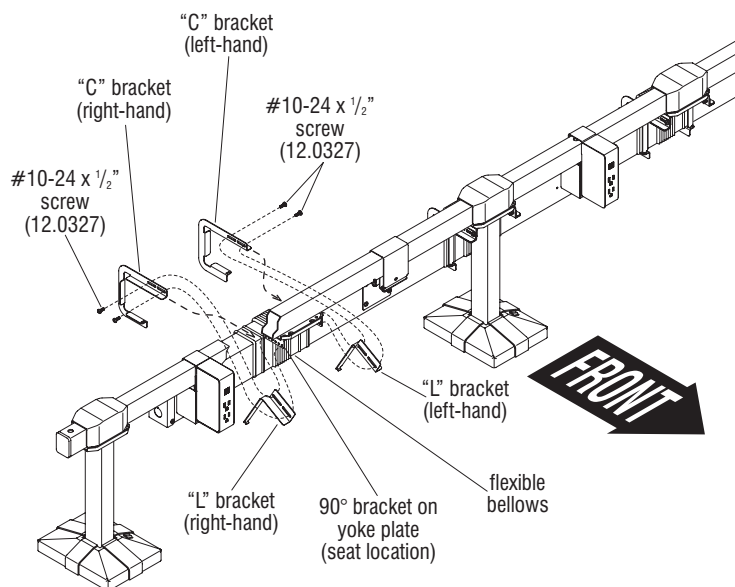

Figure 11
27. Orient the left- and right-hand "C" brackets as illustrated, and slide them onto the flat, end section of the flexible bellows. Then, from the other side of the wireway, position the right- and left-hand "L" brackets as shown. Insert the small tabs at the bottom of the "L" brackets into the lower slots on the right- and left-hand "C" brackets, then rotate the top of the "L" brackets up until the top flange of the "L" brackets make contact with the top of the "C" bracket as well aligning all at the mounting holes of the 90° bracket under the yoke plate. Squeeze the brackets firmly to the wireway and attach each set of brackets together at the 90° bracket using two #10-24 x 1/2" Torx screw. Torque screws to 25 in/lbs (Figure 11).